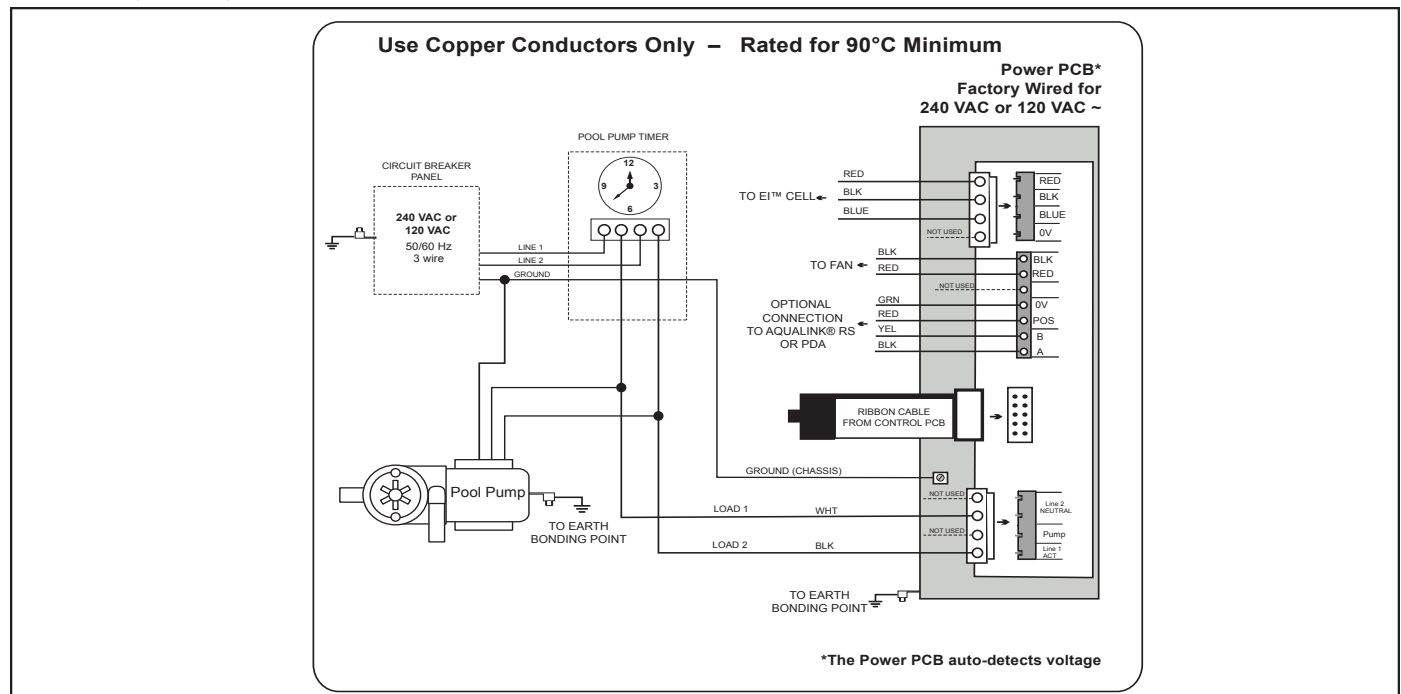

Figure 18. 240 VAC or 120 VAC Wiring Diagram
1. Wire power pack to pool pump power source using 3.3 mm² (12 AWG) insulated wire and conduit. Wire the power pack to the LOAD side of a pump or the LOAD side of the pool pump timer relay so that the chlorinator can only come on when the pool pump comes on (see Figure 18).